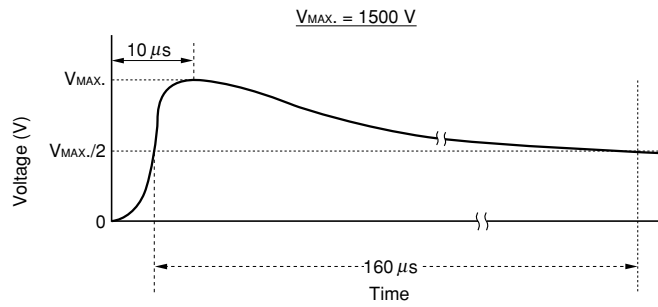

Figure 3.10 Surge Voltage Waveform
The EC2 series relay can withstand even if the surge voltage shown in Figure 3.10 is applied (1) between opening contacts, (2) between coil and contacts, or (3) between adjacent contacts.